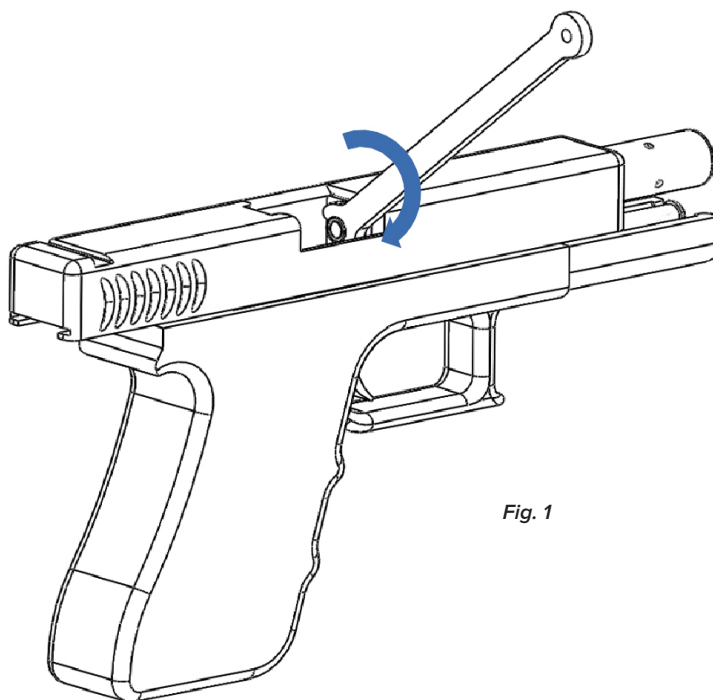

Fig. 1
3. Turn wrench in clockwise (CW) direction until tailpiece fastener is completely snug and cannot turn anymore. See figure 1 below.